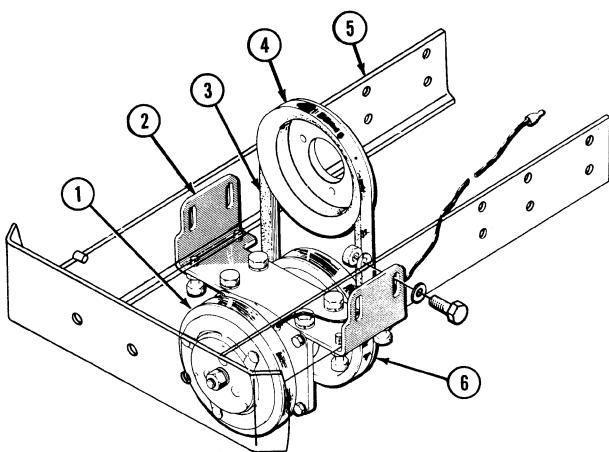
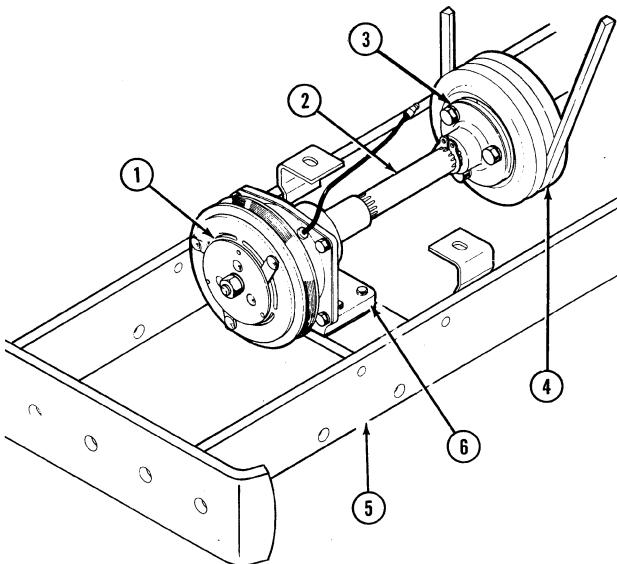

Figure 12
Figure 13
#### Ford 1100 Tractor (Figure 12)
#### Ford 1300, 1500, 1700 & 1900 Tractors (Figure 13)
2. Remove the PTO support bracket (2), Figure 12 or (6), Figure 13 and remove the assembly from the tractor.